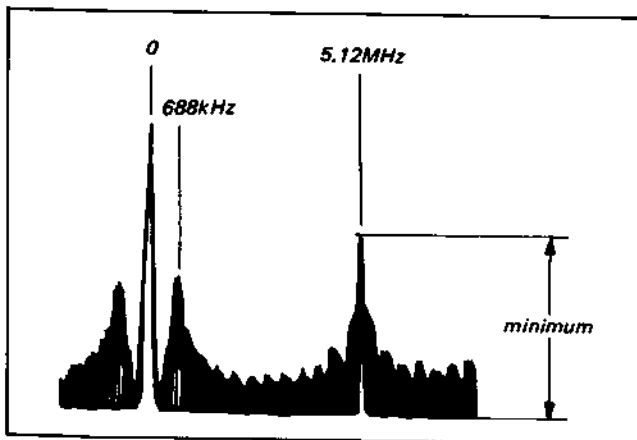

Fig. 4-36.
- (1) Supply the colour bar signal and set up the E-E mode.
- (2) Connect the spectrum analyzer to pin 4 of IC2.
- (3) Adjust RV14 for minimum level of carrier lead section ( $5.12$  MHz). (see Fig. 4-36).